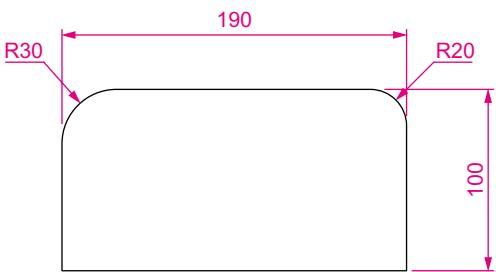

Fig. 6.6 Third example – Radius dimension
### Third example – Radius Dimension (Fig. 6.6)
4. Continue dimensioning the outline as shown in Fig. 6.6.